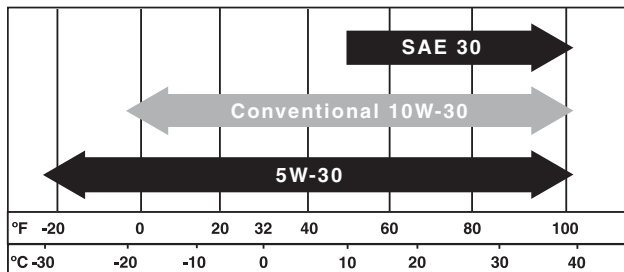

Figure 25 – Recommended Oil
1. Only use the engine oil specified in *Figure 25*.